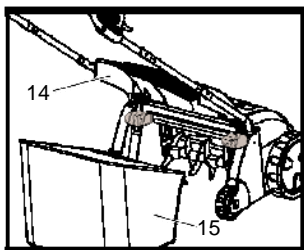

Fig. 6
- a). Open the deflector guard (14), hold it in position and align the hooks on the grass catcher (15) with the hinges on the back of machine. (See Fig. 6).
- b). Empty the grass catcher (15) frequently during use. Do not wait until it is completely full. We recommend emptying it when it is half full.
- c). Lift the deflector guard (14) and pull the grass catcher (15) off the hinges to remove it.